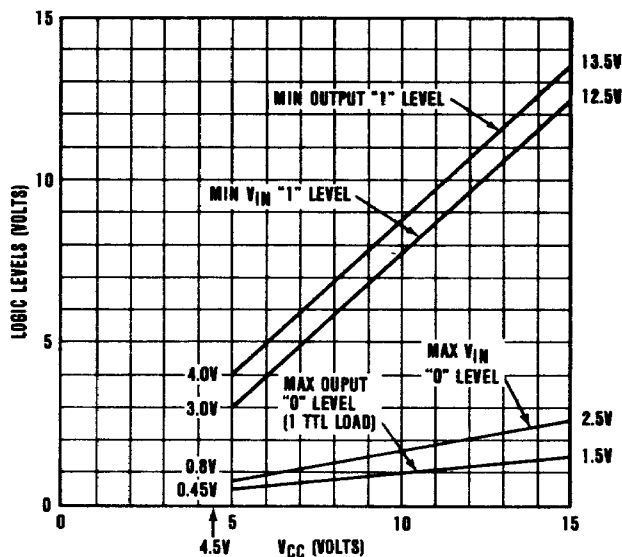

Figure 7. Input/Output Logic Levels
1. Do not apply voltages (from a source which can supply more than 5mA) lower than ground to I01 or I02 terminals. (See Figure 7)
The minimum and maximum voltage levels for digital inputs and outputs are shown in Figure 7. These logic levels provide compatibility with TTL for $V_{CC} = +5V$ and CMOS for V_{CC} levels up to $+15V$.